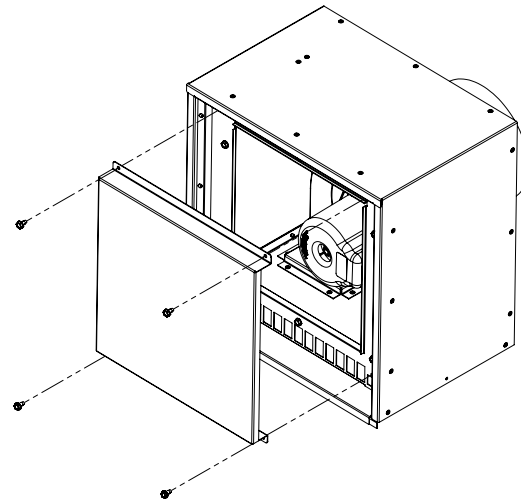

Figure 15: Front cover removal
1. Remove the power vent's front cover by removing the four (4) #10-24 bolts using a 5/16" nut driver. See Figure 15.